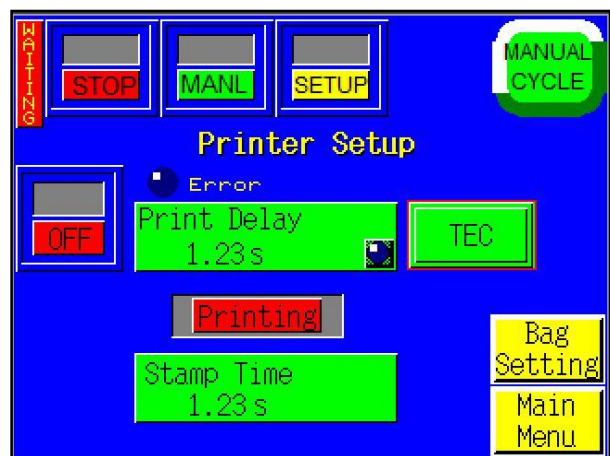

Figure 3-25
To enable Printer operation on the Thermal Transfer (TT) Printer, press the highlighted <Printer Ti-1000> button. Toggle <ON> to enable operation of the printer. See Figure 3-25.